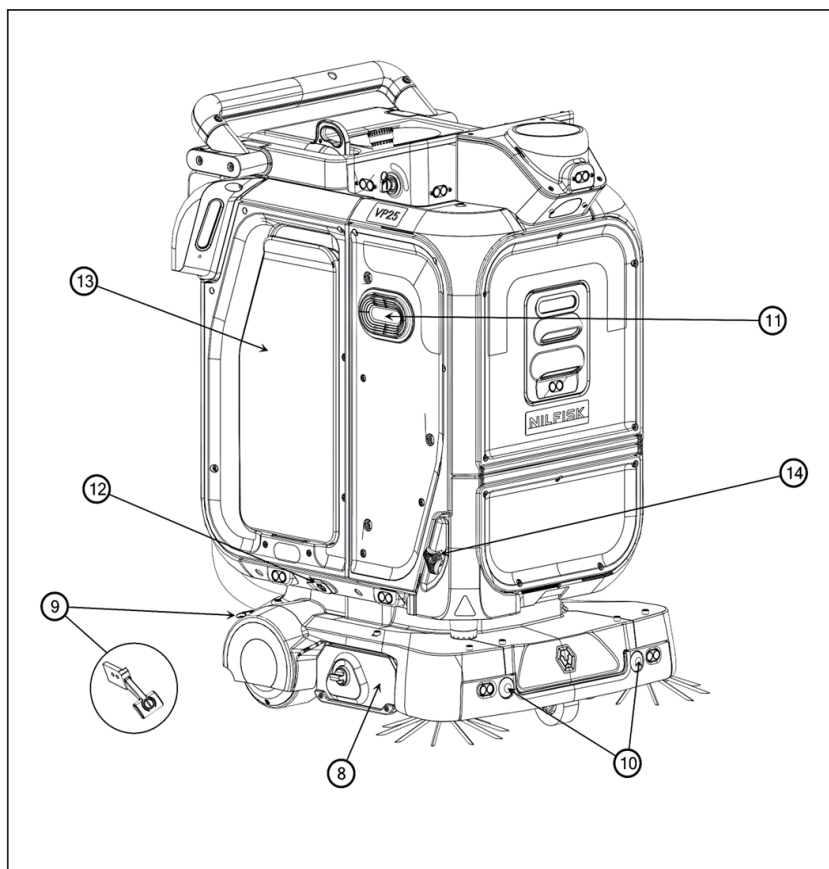

Figure 2
1. Open the Front Panel Knobs (14) (Fig. 2).
1. Disengage (raise up) the Safety Levers (9) (Fig. 2).
5. Ensure that the Tank Hatch (13) (Fig. 2) is closed.